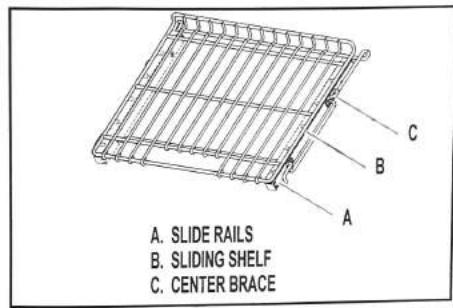

FIGURE 3
11. Keep the rack lifted at an angle and push in until the back edge of the sliding rails (A) bypass the lower "V" cutout. See Figure 3.
12. Angle the rack downward and continue to gently slide the assembly in until the center brace (C) bypasses the "V" cutout. See Figure 3.